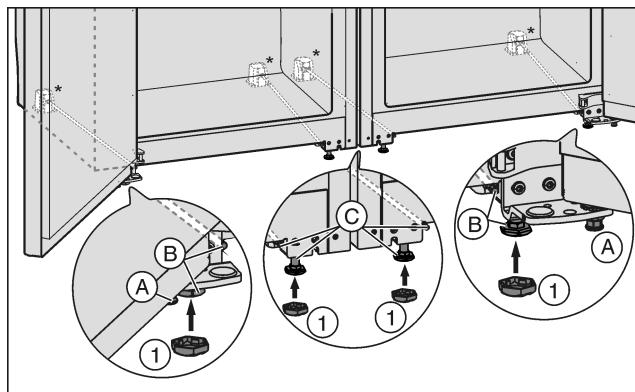

Fig. 21
- If necessary screw in the adjustment feet Fig. 21 (A) at the front of both appliances completely so that there is no floor contact.
- Place the caps Fig. 21 (1) on the four front adjustment feet.
- Tighten the centre adjustment feet Fig. 21 (C) so that there is no floor contact.
- Align the combination with the outer adjustment feet Fig. 21 (B).
- Lower the centre adjustment feet *Fig. 21 (C)* again until they touch the floor.
- Then shore up the door: Lower the adjustment feet *Fig. 21 (A)* onto the bearing bracket until they contact the floor then turn 90° again.